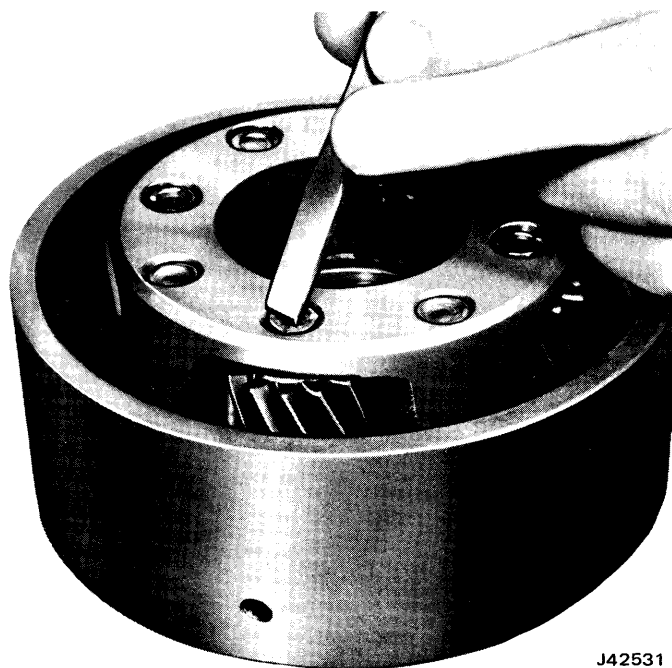

Fig. 7-108 Staking Pinion Pin
(10) Install large punch in bench vise to serve as anvil and stake opposite end of pinion pin in three places (fig. 7-108).